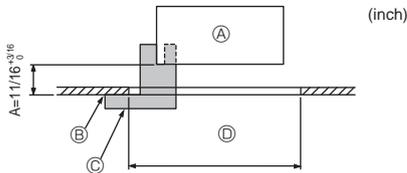
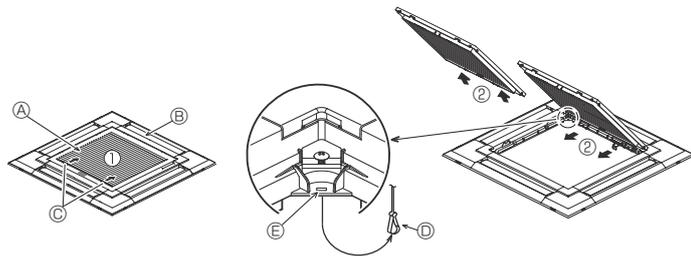
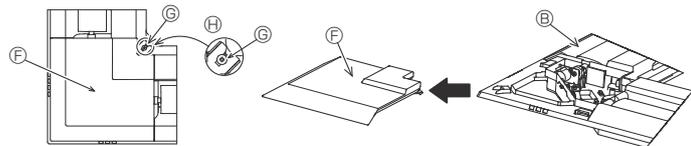

Fig. 6-2
Fig. 6-3
Fig. 6-4
①	Grille	1	950 x 950 (mm), 37-13/32 x 37-13/32 (inch)
②	Gauge	1	Divided into 4 parts
③	Screw (4 x 16)	1	For PLFY-EP-NEMU1-E
④	3D i-see Sensor corner panel	1	For PLFY-EP-NEMU1-E
6.2. Preparing to attach the grille (Fig. 6-2)
- With the gauge ② supplied with this kit, adjust and check the positioning of the unit relative to the ceiling. If the unit is not properly positioned relative to the ceiling, it may allow air leaks or cause condensation to collect.
- Ⓒ Gauge ② (inserted into the unit)
6.2.1. Removing the intake grille (Fig. 6-3)
- Slide the levers in the direction indicated by the arrow ① to open the intake grille.
- With the intake grille in the "open" position, remove the hinge of the intake grille from the grille as indicated by the arrow ②.
6.2.2. Removing the corner panel (Fig. 6-4)
- Loosen the screw from the corner of the corner panel. Slide the corner panel as indicated by the arrow ① to remove the corner panel.
[Fig. 6-3] [Fig. 6-4]